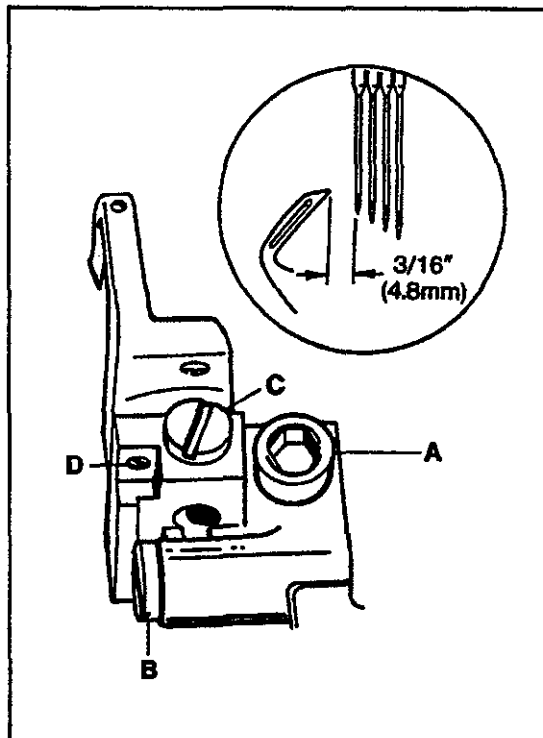

FIG. 14
Turn the handwheel in operating direction until the looper has traveled fully to the left. Loosen screw (A, Fig. 14) and move the looper holder to the right or left until the distance from the point of the looper to the center of the first (left) needle is $3/16"$ (4.8mm). Clearance between the looper point and the scarf of the needle must not exceed $.002"$ (0.05mm). Turn screw (B) until the $.002"$ (0.05mm) dimension is achieved. Tighten screw (A).
A clearance of $.018"$ to $.025"$ (0.46mm to 0.64mm) should be maintained between the top of the looper and the bottom of the stitch tongue. Loosen screw (C, Fig. 14) and turn screw (D), directly under the looper, up or down as required. Make sure the looper is seated and tighten screw (C). Check for clearance.